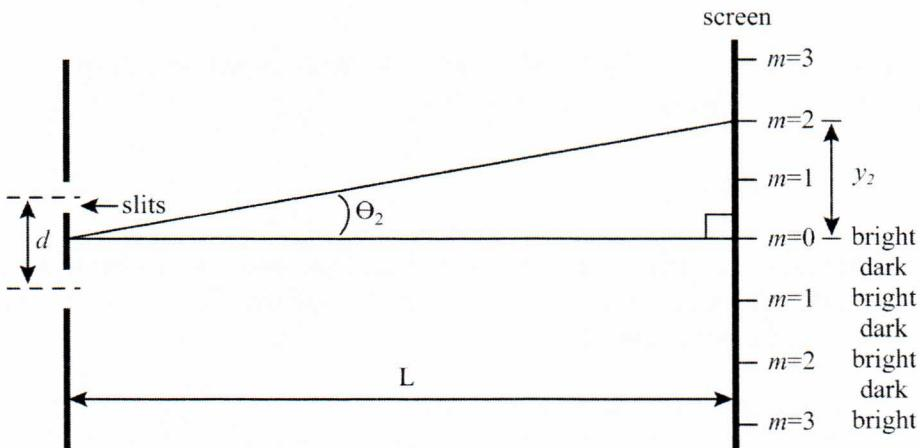

Figure 11.1 The double-slit experiment and an explanation of physical variables.
11.3.1 Double-slit interference occurs when coherent, monochromatic (same wavelength, λ , and in-phase) light is emitted from two locations a distance d apart. The wave nature of light makes it such that the light from each location will interfere with the other, adding wave amplitudes at all locations. If a screen is placed a distance L away from the slits, the light will interfere at the screen producing light and dark fringes. How the light interferes at a particular spot on the screen will depend upon to the difference in distance from each of the sources compared to the wavelength used. As shown in figure 11.1, there is a central bright spot at the location across from the midpoint between the slits. This is order $m = 0$ and defines the origin from which to measure the fringe distance to the other orders, y_m .